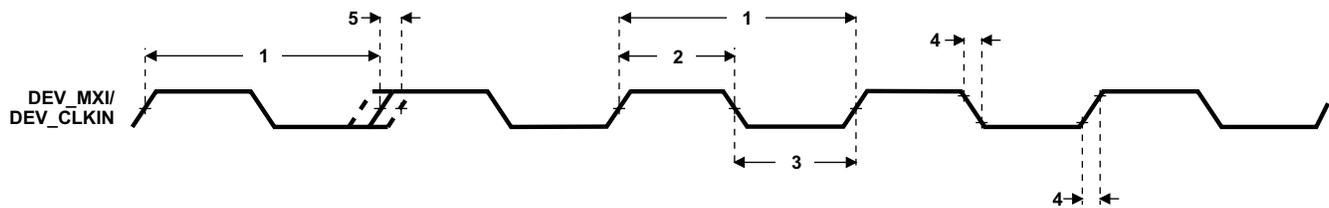

Figure 7-15. DEV_MXI/DEV_CLKIN Timing
Table 7-12. Timing Requirements for DEV_MXI/DEV_CLKIN^{(1) (2) (3) (4)} (see Figure 7-15)